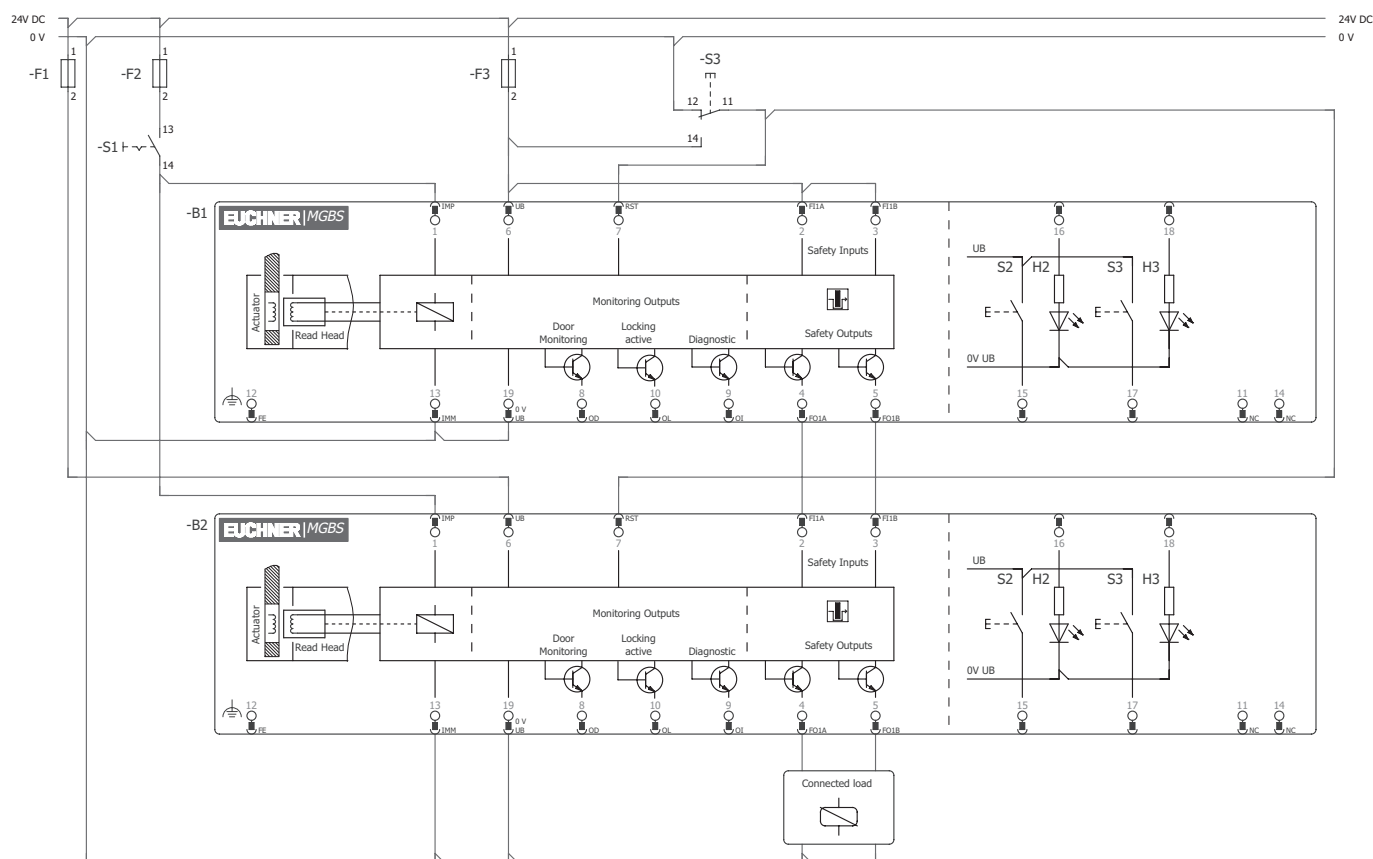

Fig. 6: Connection example for a switch chain; version with plug connector M23
- ▶ A common signal must be used for all locking modules in the chain. This can be a changeover switch or the output of a control system. A pushbutton is not suitable because the reset must always be connected to GND during operation (see switch S3 in Fig. 6 on page 29).
The RST input must be connected as shown in *Fig. 6 on page 29* to permit this.